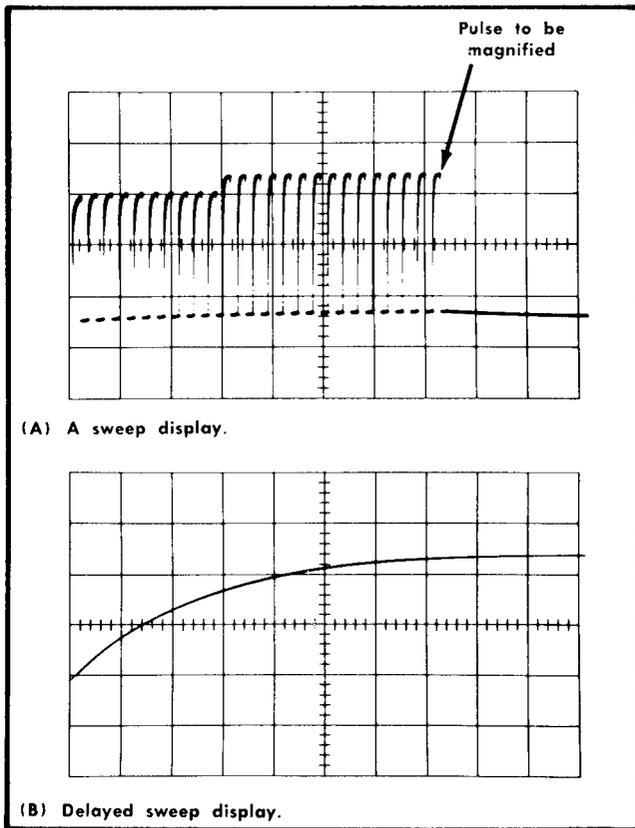

Fig. 2-21. Using delayed sweep for sweep magnification.
8. Set the HORIZ DISPLAY switch to DELAYED SWEEP (B).
**Example:** The apparent magnification of the display shown in Fig. 2-21 with an A TIME/DIV switch setting of .1 ms and a B TIME/DIV switch setting of 1  $\mu\text{s}$  is: